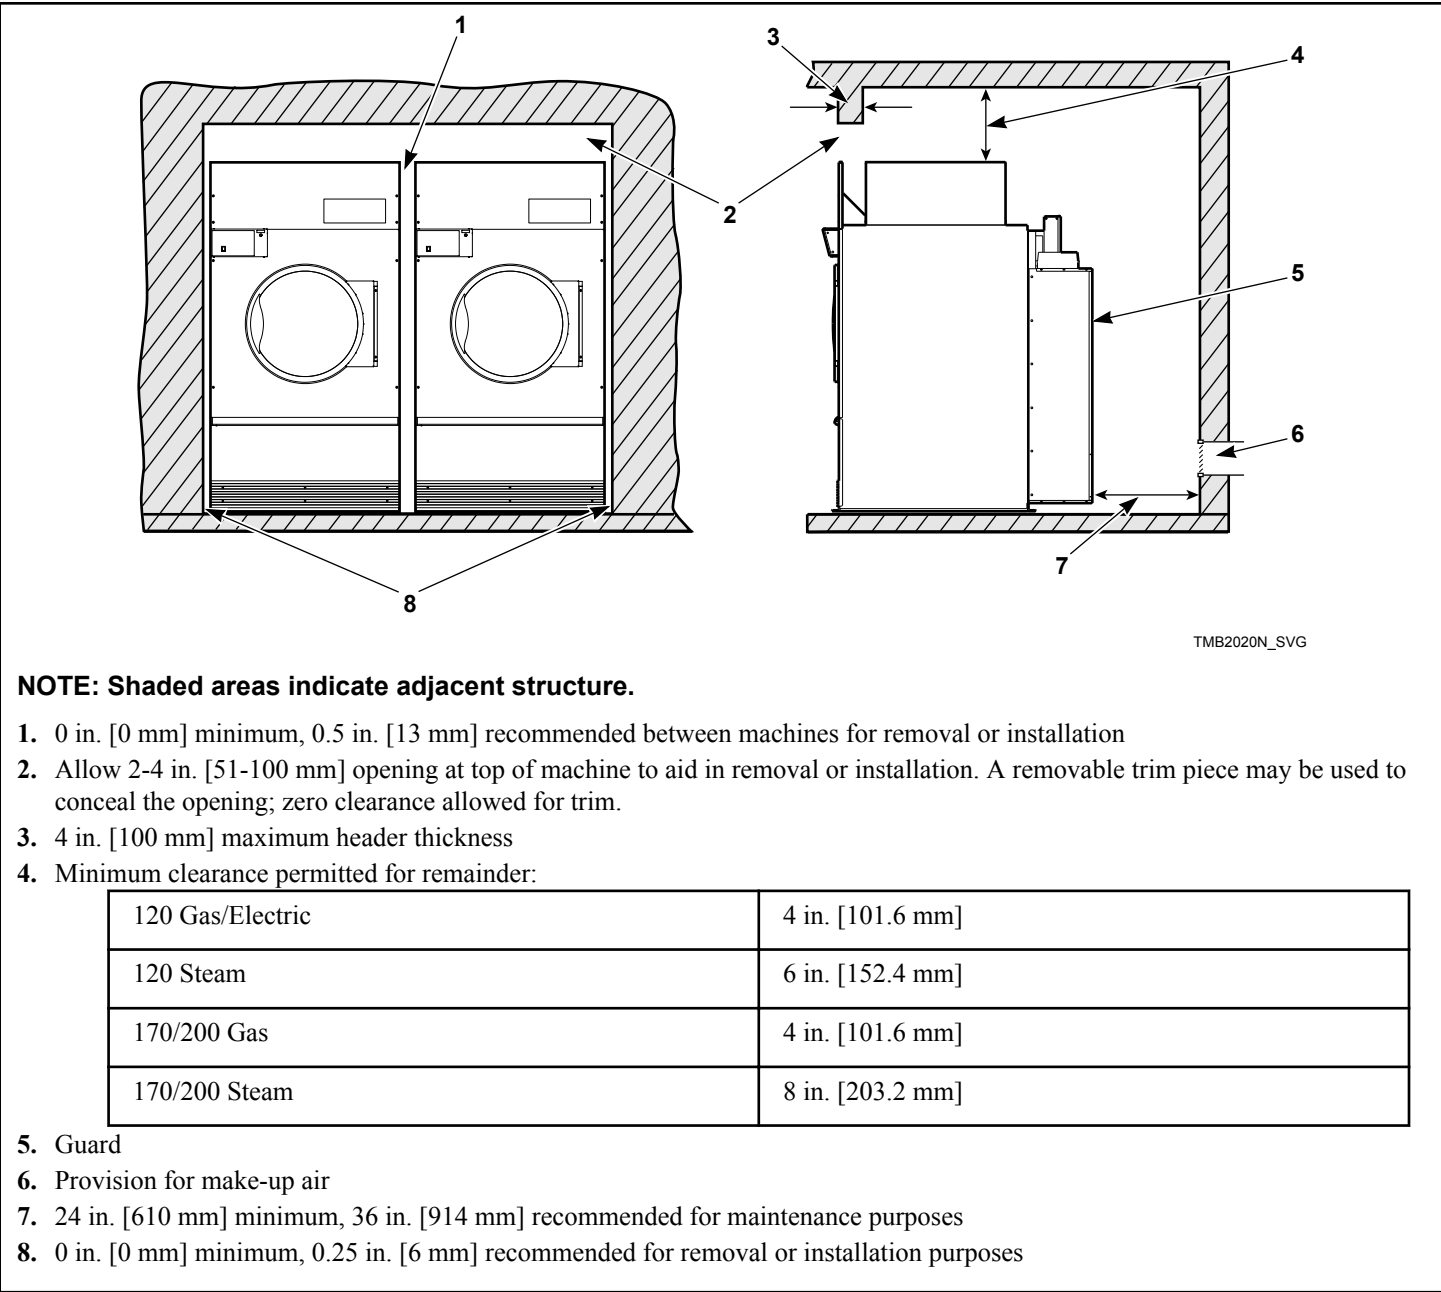

Figure 2
A typical tumble dryer enclosure is shown in *Figure 2*.
**IMPORTANT: Install tumble dryers with sufficient clearance for servicing and operation, refer to *Figure 2*.**